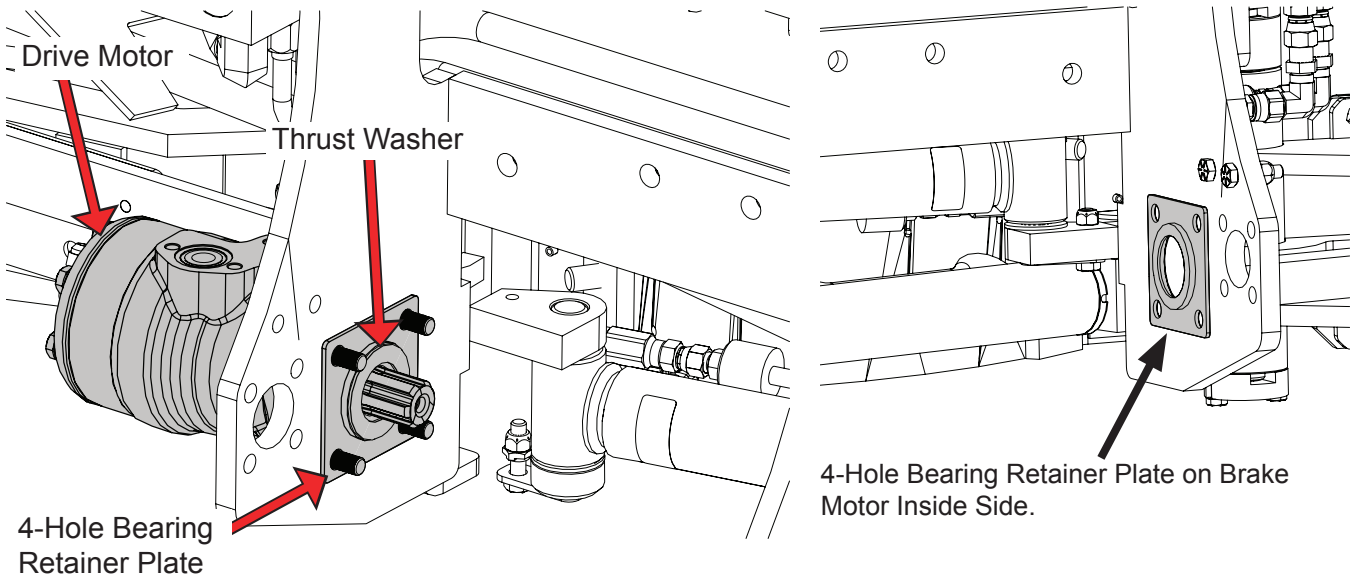

Figure 14
1. Install the 4-hole bearing retainer plate to the **inside of the grabber carriage assembly over the motorshaft support bearing** (Figure 14). The Loctite applied side of the plate must be against the grabber carriage assembly. The large hole in the bearing retainer plate matches the location with the large hole on the grabber assembly. **Repeat on the other inside side of the grabber carriage assembly.**
2. **Drive Motor:** Install the **drive motor** in place on the grabber carriage assembly on the **left side** (Figure 14). Install the motor just enough to allow the thrust washer (when it is installed in the next step) to hang on the shaft.
3. Install a thrust washer in place around the drive motor spline on the **inside side** (Figure 14).